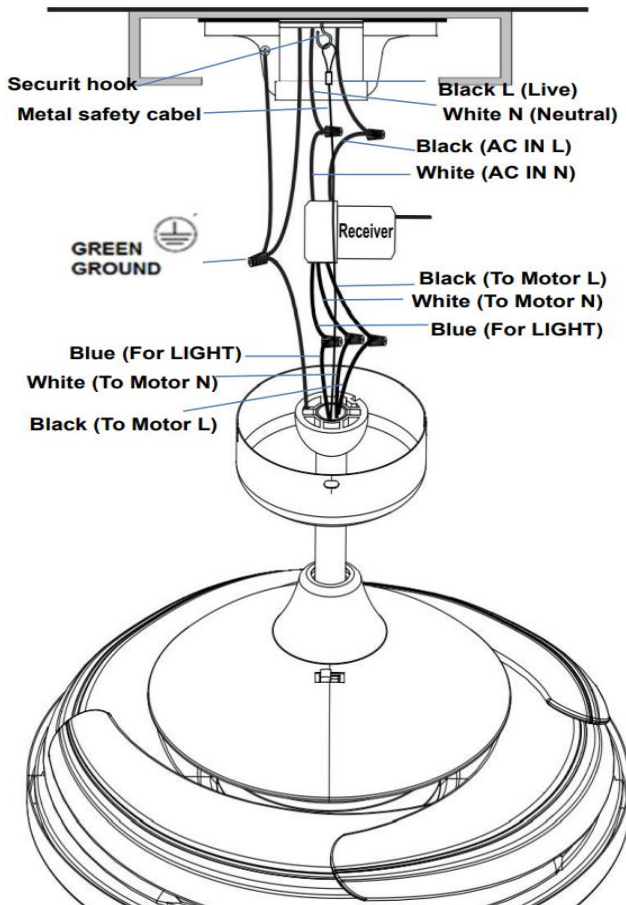

Fig. 10a
7. Pull the metal safety cable on the security hook, tight the safety cable (Fig.10a & Fig.10b)